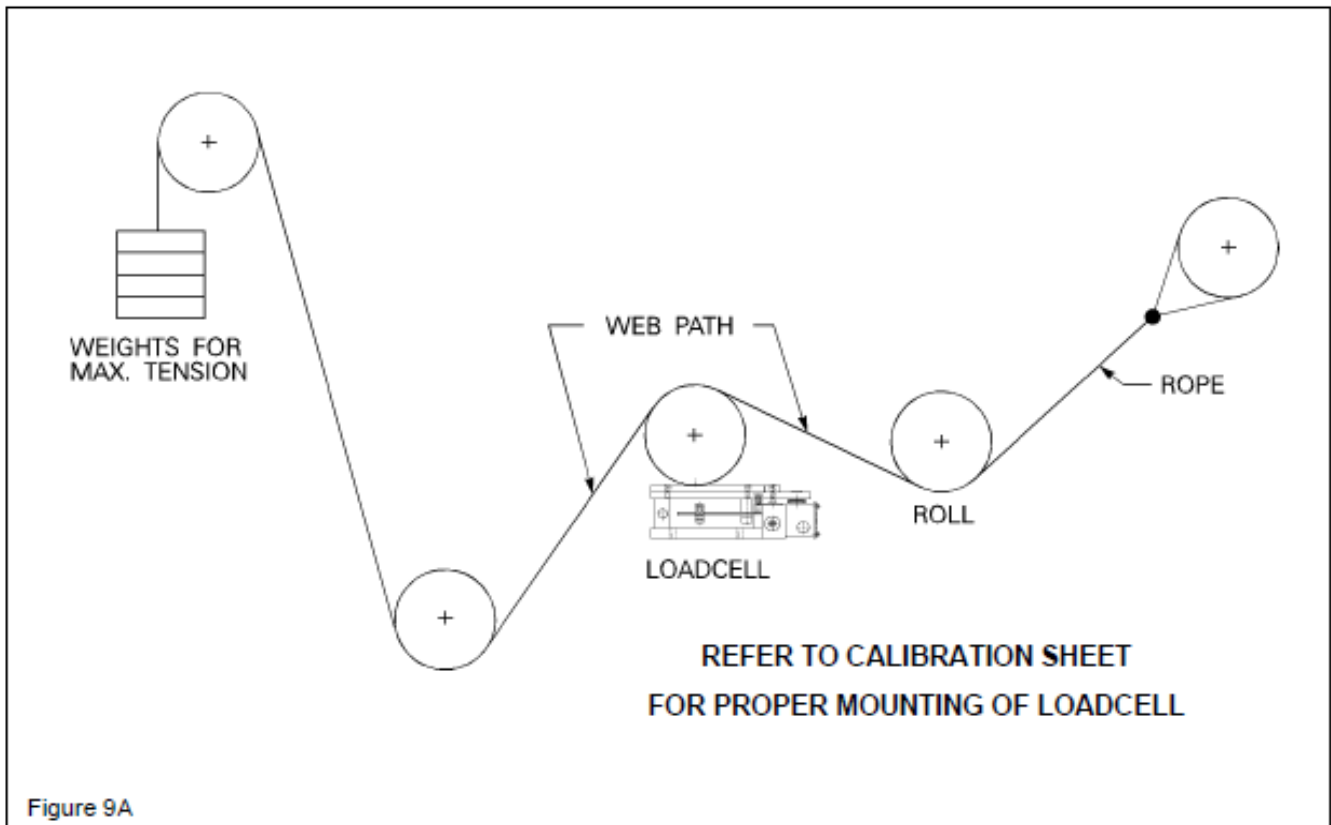

Figure 9A
2. With one end of the rope secured, hang a known weight, equally over the roll so that the total tension is equal to the maximum strip tension specified on the calibration sheet, at the other end. (See Figure 9A)